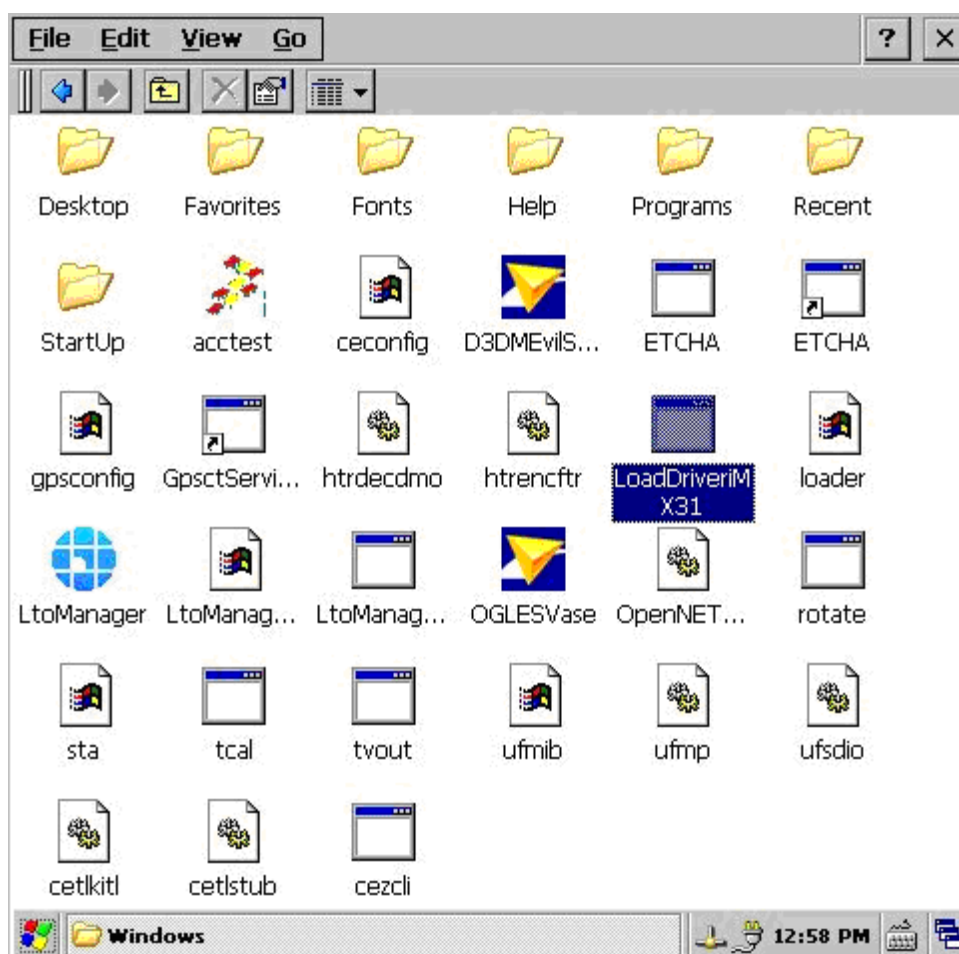

Figure 7-3 Wi-Fi Configuration Application
1. Go to the \Windows folder and double-click the **LoadDriveriMX31.exe** icon (Figure 7-3).